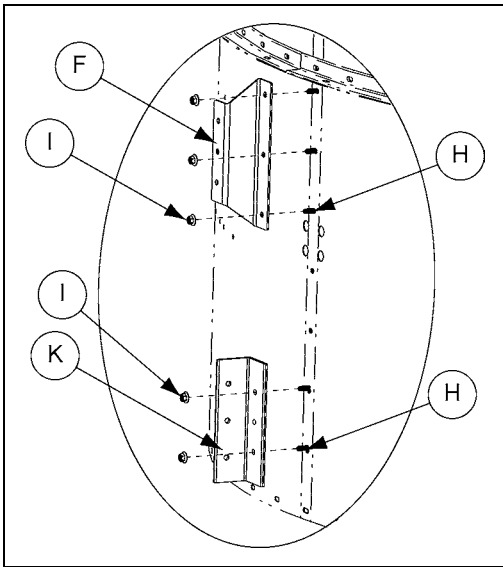

Figure 3B
1. Install bracket (F) and clip (K) to the burner panel seam right below the bottom burner ring using bolt (H) and nut (I). *(See Figure 3B.)*